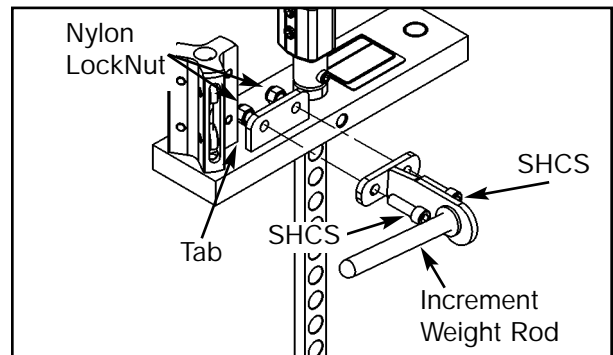

Figure 3
- Remove top weight increment rod from the top weight. See Figure 3.
NOTE: Position top weight so that the tab is nearest the increment rod on the frame. See Figure 3 for location of tab.
O. Place top weight increment rod onto the top weight and secure using two nylon locknuts and two SHCS .375-16 x 1.25. See Figure 3.